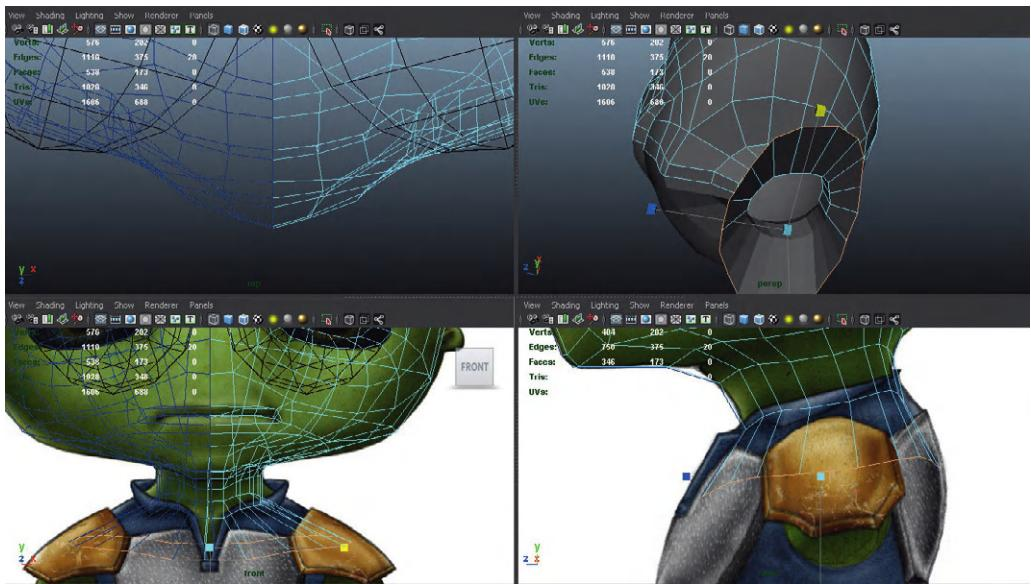

FIG 4.49 Roughing out the neck.
Step 67: Construct the neck down to the top of the shoulders. This is done with a bit of tweaking and several extrusions. Figure 4.49 shows how the neck was constructed by selecting the inner edge of the faces we just meticulously constructed and extruding down three times. Be sure to be sculpting the new vertices into place as the neck grows down.